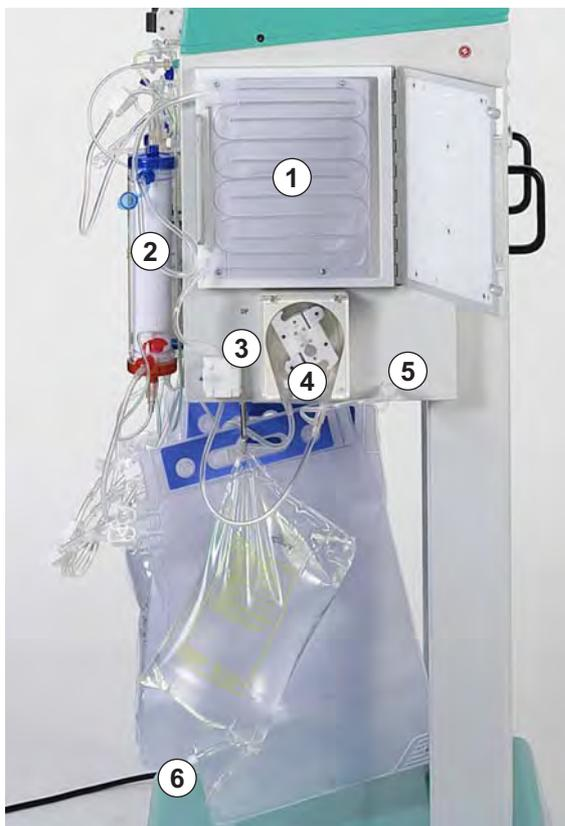

Fig. 5-14 Setting-up the dialysate line
1. Insert warming bag with blue Hansen connector pointing upwards into plate warmer (Fig. 5-14, ①). Use the holes provided in bag to fix the bag.
3. Connect blue inflow line to dialyzer (Fig. 5-14, ②).
4. Place blue inflow line into dialysate air detector (DAD, Fig. 5-14, ③).
5. Insert pump segment of dialysate line into dialysate pump (Fig. 5-14, ④) with blue marking on left side.
6. Screw on the pressure transducer (Fig. 5-14, ⑤).
7. Connect distributor of dialysate line to prepared dialysate bag (Fig. 5-14, ⑥) and break seal.